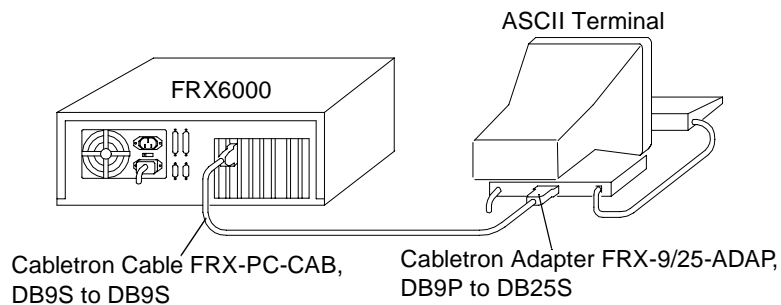
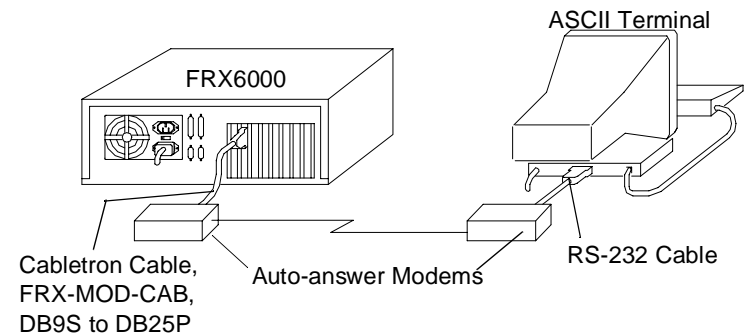

Figure 4 Auxiliary Console Cabling Example 1
Figure 6 Auxiliary Console Cabling Example 3
Figure 4 through Figure 6 show the cabling configurations.
11. Install the console and cabling as shown in Figure 4 through Figure 6.